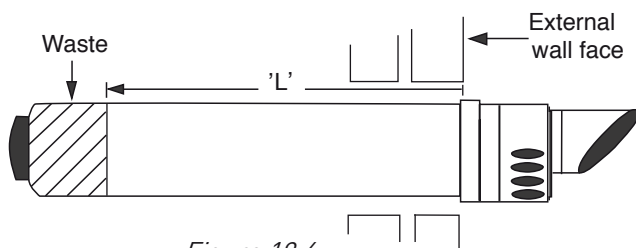

Figure 10.6
**10.8** On installing the flue, determine the required length of the **outer air duct** by measuring the distance 'L' (*Figure 10.6*) from the face of the external wall to the back of boiler's elbow connecting collar. The measurement for the **inner flue duct** will be 'L' + 20mm